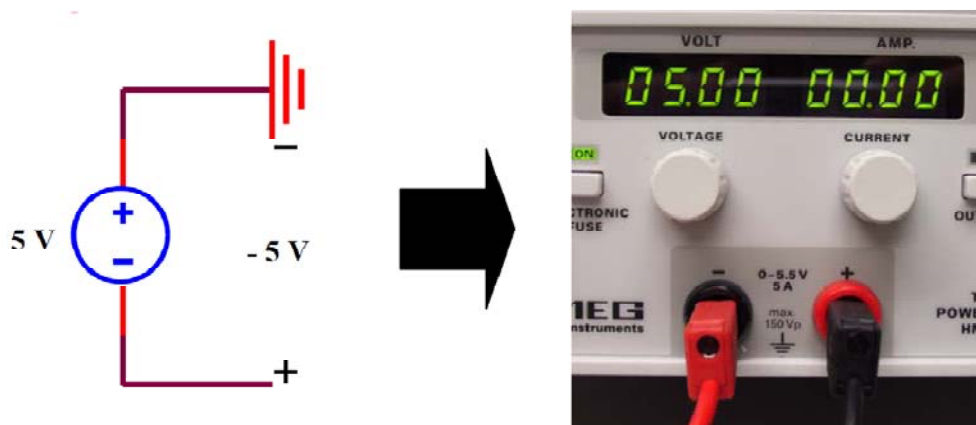

Figure 6: -5V Voltage Source ??? Figure 5
-5V source. Refer to Figure 6 for an accurate visual representation. A voltage source with voltage levels on *both* sides of ground can be constructed using two power supplies.